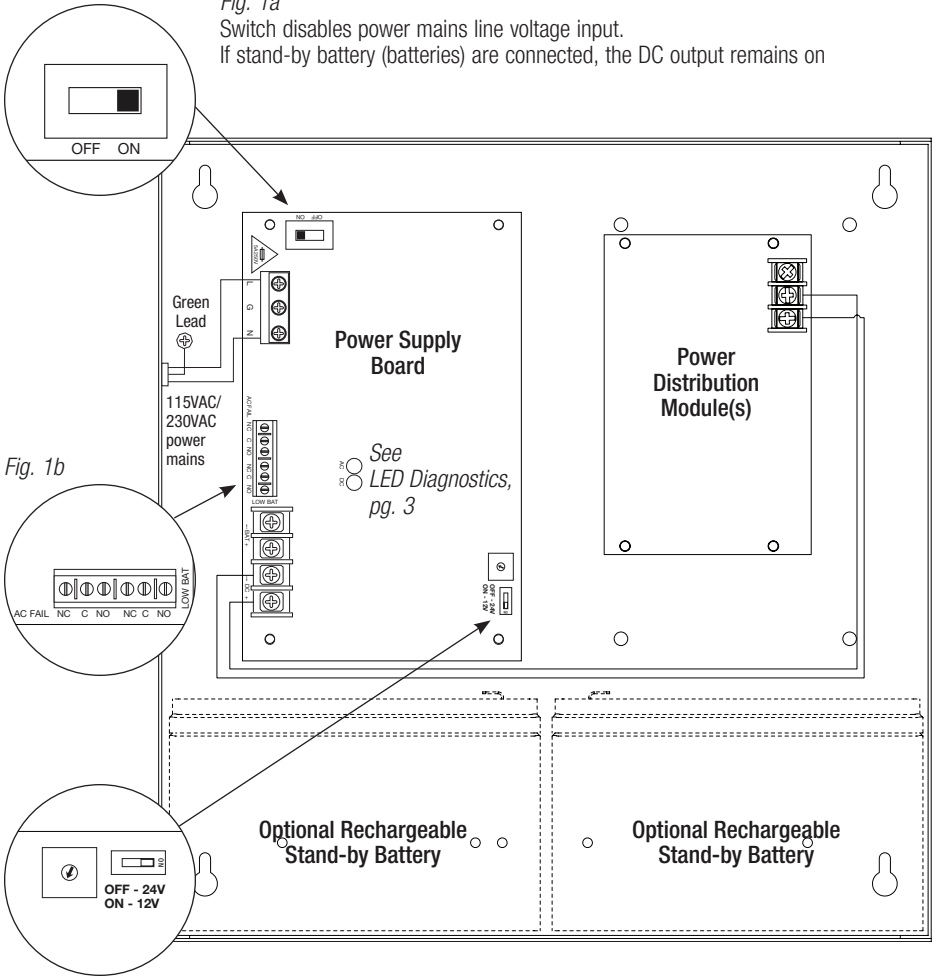

Fig. 1b
10. Connect appropriate signaling notification devices to AC Fail and Low Bat supervisory relay outputs marked [NC, C, NO] (*Fig. 1b, pg. 5*).